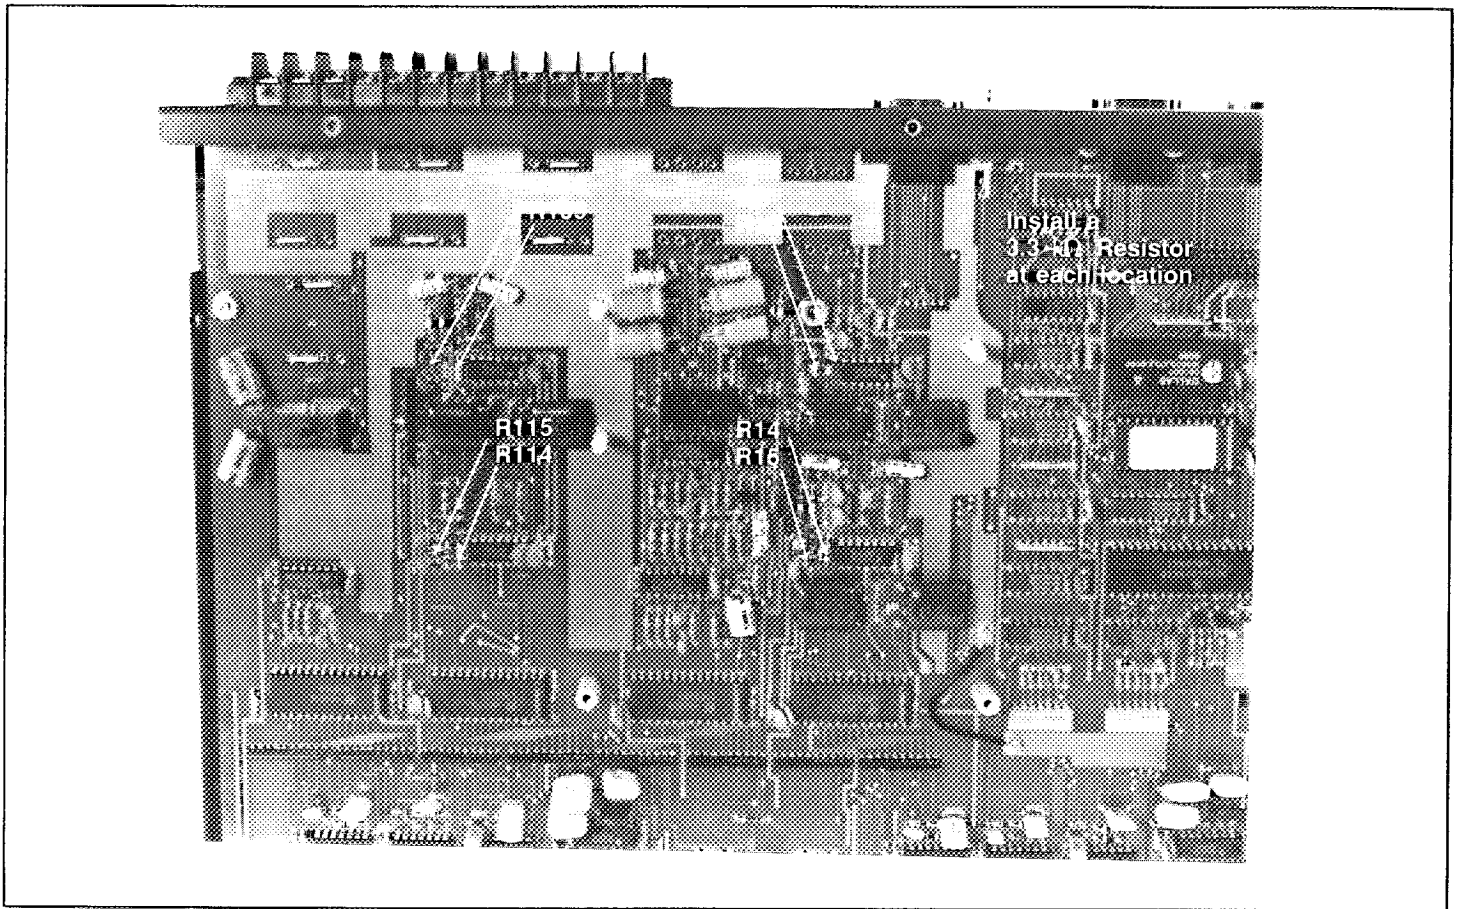

Figure 5 Modifying the Main Circuit Board for  $\pm 6$  dB of Boost/Cut with  $\frac{1}{2}$  dB Resolution
4. Several resistors should be omitted. They are designated R9, R10, R109, R110, R14, R15, R114, and R115 as shown in Figure 5. Installing the 3.3 k $\Omega$  resistors in these locations will decrease the maximum boost and cut of each frequency band to  $\pm 6$  dB and provide 1/2 dB resolution. Since the circuit board is double-sided, the resistors can be installed without removing it from the chassis. However, you must trim the leads enough before soldering the resistors in place to insure that the protruding leads extending from the bottom of the circuit board CAN NOT TOUCH the chassis.